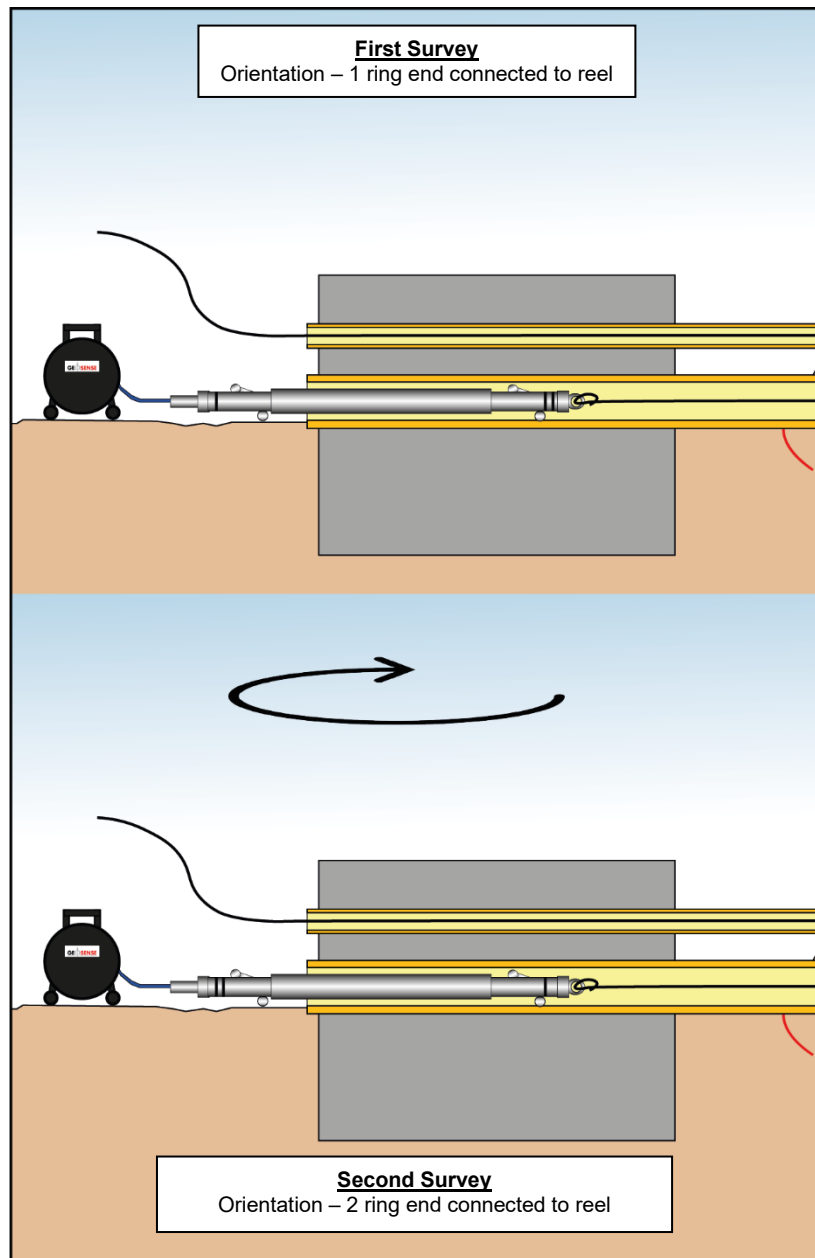

Figure 24: Probe rotated around Z-axis 180 degrees between surveys.
- 4) Once the probe reaches the top/access end of the installation, follow the on-screen instructions in the app and rotate the probe 180 degrees as per Figure 24: Probe rotated around Z-axis 180 degrees between surveys.